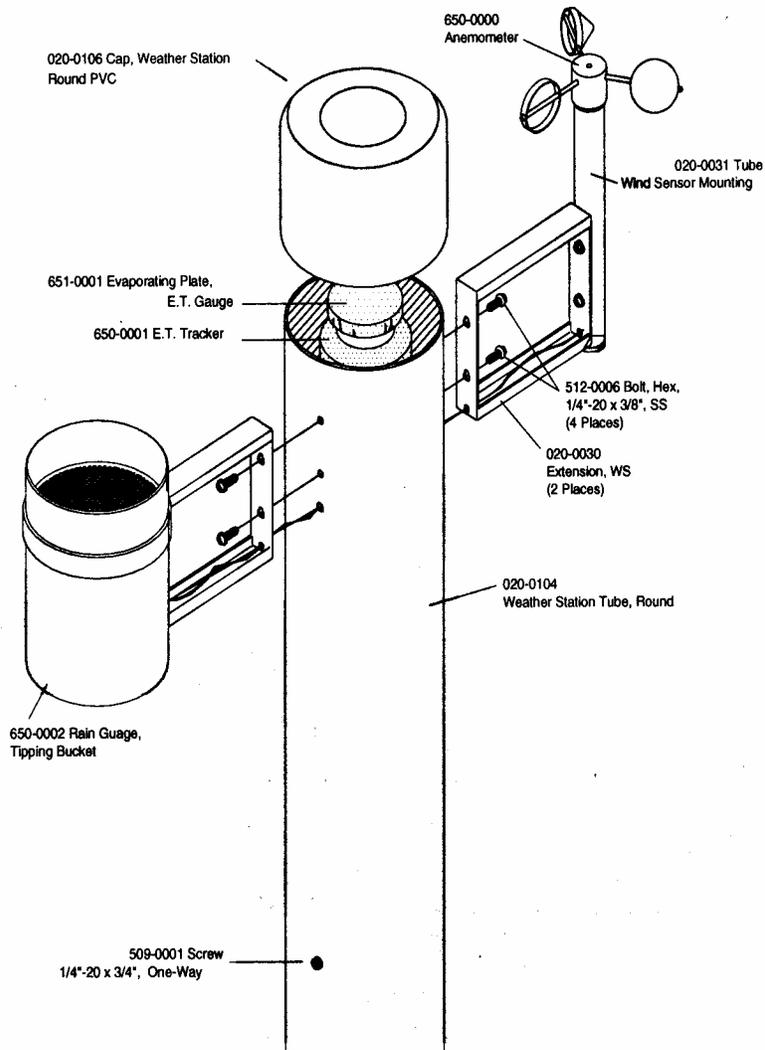
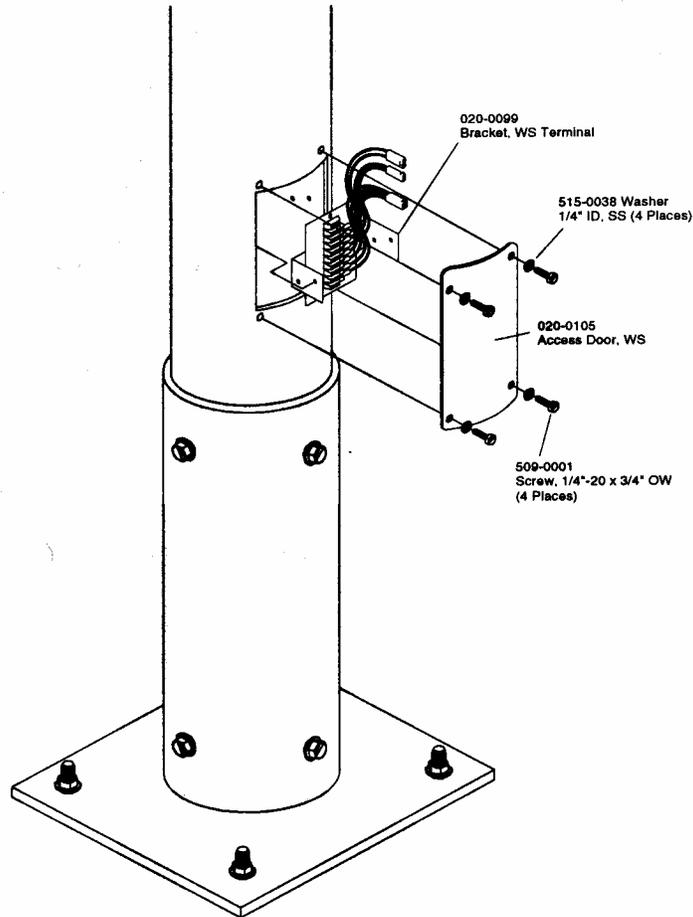
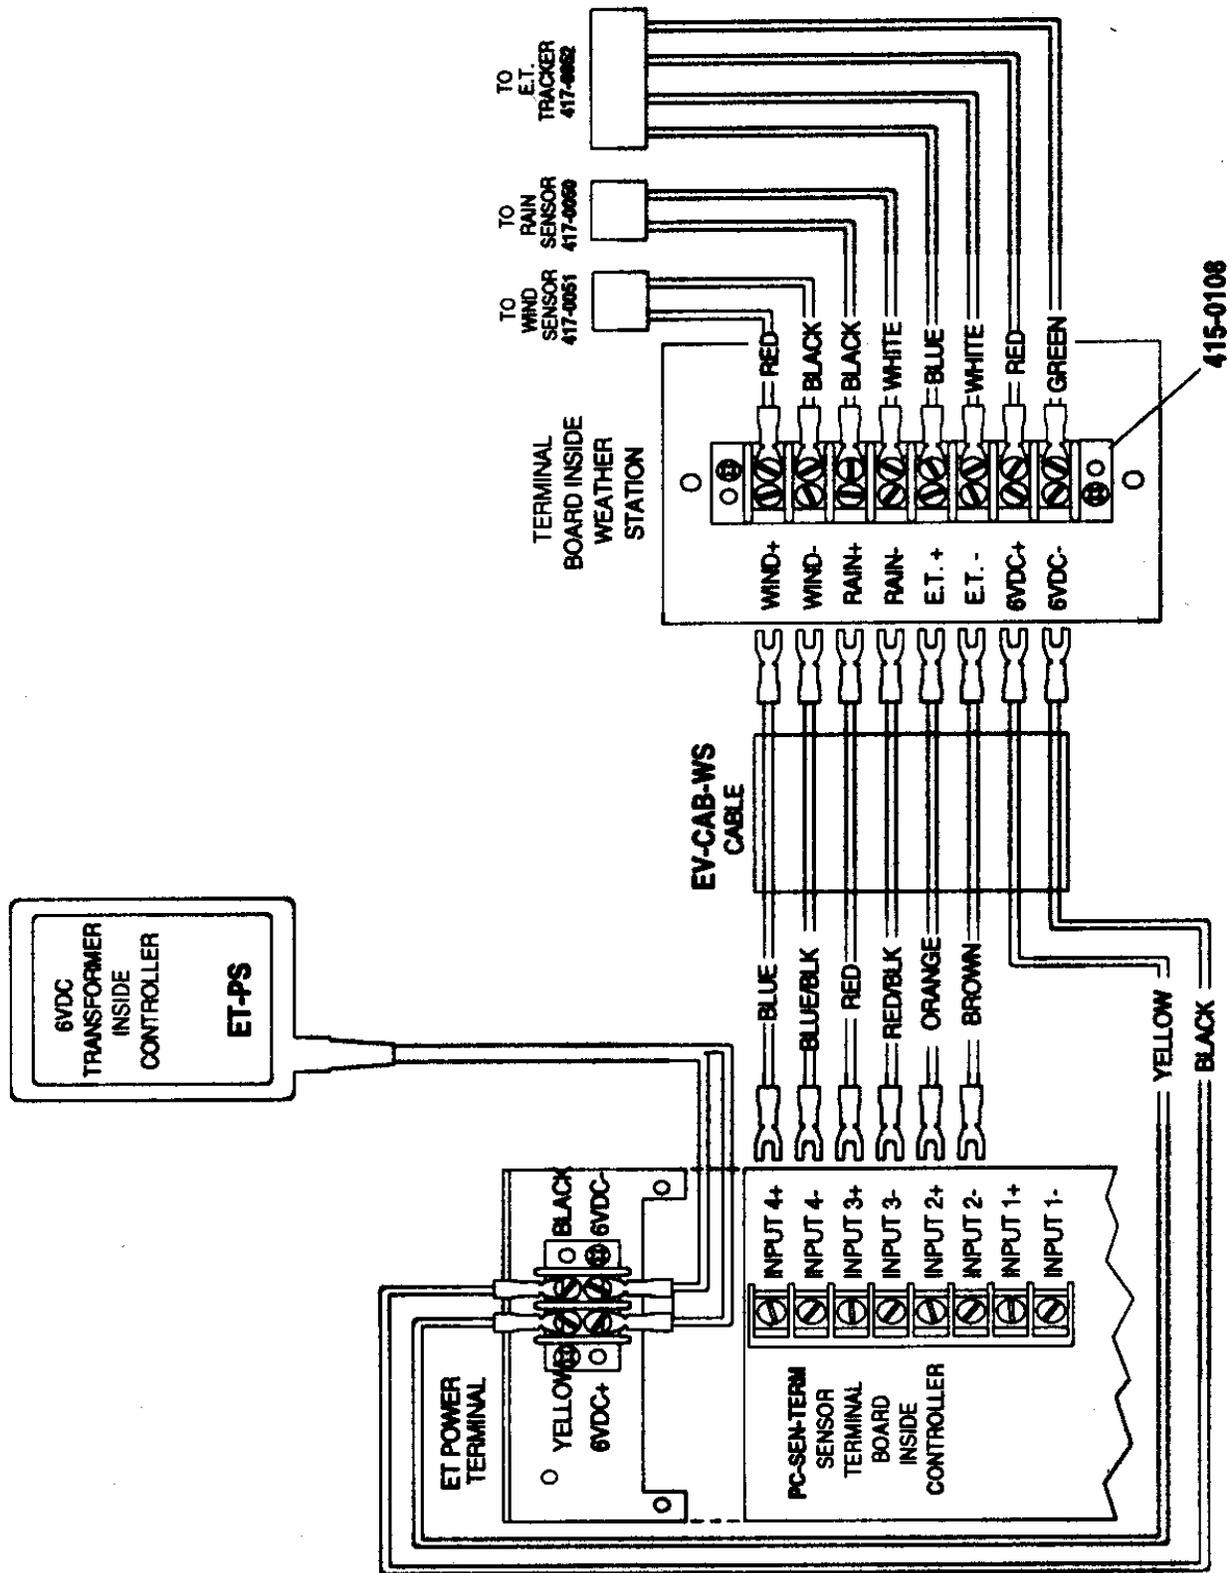

Figure 4: Sensor Mounting Configuration
Figure 5: Tower Terminal Block
Figure 6: Weather Station to Controller Connections
- Step 4** Using a 7/16 inch socket wrench, remove the four Rain Gauge and Anemometer mounting bolts from the tower mast. Attach the Tipping Bucket Rain Gauge to the tower and insert the signal cable, with connector, through the 5/8 inch hole in the side of tower (See Figure 4: Sensor Mounting Configuration).
- Step 6** Attach the Anemometer to the tower and insert the signal cable, with connector, through the 5/8 inch hole in the side of tower. (See Figure 4: Sensor Mounting Configuration)
- Step 7** Remove the lower access plate using the supplied hand tool (ET-610). Drop the cable all the way down the tower mast until it is accessible through the lower access panel. Mate the connectors to the Weather Station terminal bracket connectors (See Figure 5: Tower Terminal Block and Figure 6: Weather Station to Controller Connections).
- Step 1** Carefully lower the complete ET Tracker assembly through the top of the tower until the bottom of the ET Tracker rests on the support bracket. Install the PVC round cap on the top of the tower with the evaporating plate extending through the hole. Route the cable from the ET Tracker and mate the cable with the 4 pin connector wired to the terminal block. Remove the access plate to route the cable as necessary. (See Figure 4: Sensor Mounting Configuration and Figure 5: Tower Terminal Block)
- Step 2** Connect the Weather Station end of the EV-CAB-WS (8 conductor) cable according to the color code and wiring diagram supplied (See Figure 6: Weather Station to Controller Connections)
- Step 3** Install the access door using the supplied one-way bolts (See Figure 5: Tower Terminal Block).
- Step 2** Connect the remaining end of the EV-CAB-WS (8 conductor) cable to the sensor terminal board at the Evolution DX2 Controller according to the color code and wiring diagram supplied (see Figure 6: Weather Station to Controller Connections).
- Step 6** Connect the yellow and black wires of the Weather Station cable (EV-CAB-WS) from the Weather Station terminal block to the DX2 terminal strip. See Figure 6: Weather Station to Controller Connections.